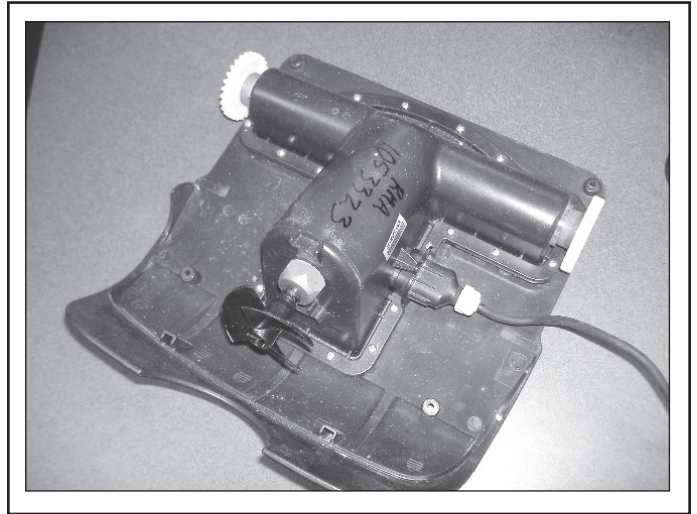

Figure 11. Testing the Motor Block
- Once secured, start the diagnostic test (see Figure 11).